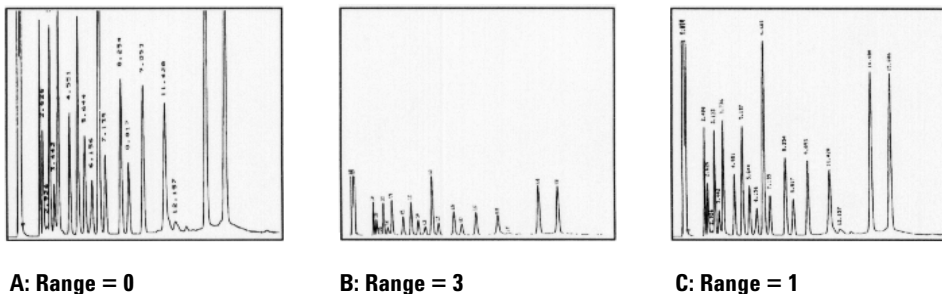

Figure 35 Effect of range setting on chromatogram
If a chromatogram looks like A or B in Figure 35, the data needs to be scaled (as in C) so that all peaks are visible on the paper.
Valid setpoints are from 0 to 13 and represent 2^0 (1) to 2^{13} (8192). Changing a setpoint by 1 changes the width of the chromatogram by a factor of 2. The chromatograms in Figure 35 illustrate this. Use the smallest possible value to minimize integration error.